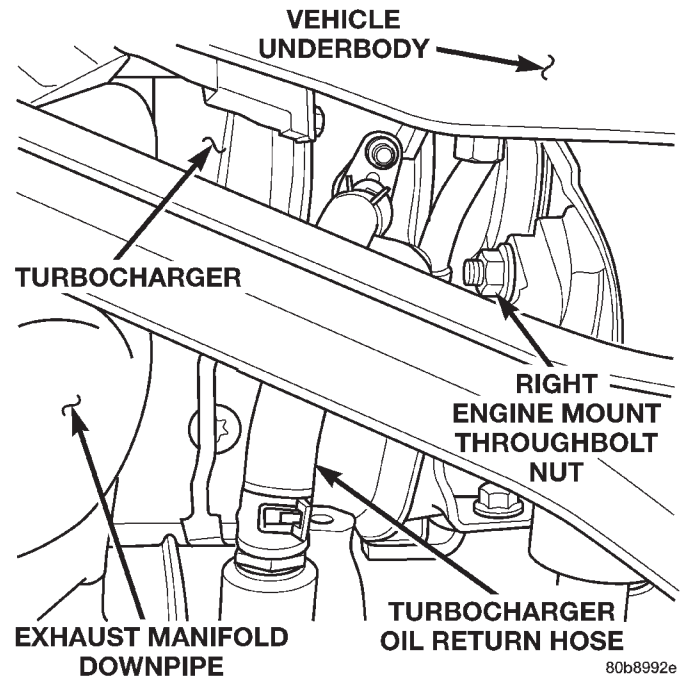

Fig. 3 Turbocharger Oil Return Line
- (1) Disconnect the negative battery cable.
- (2) Make sure steering wheel is in the unlocked position.
- (3) Raise the vehicle on a hoist.
- (4) Rotate the front wheels to access and remove the steering shaft pinch bolt, slide shaft straight off gearbox input shaft and position steering shaft aside.
- (5) Remove the turbocharger oil return line from engine block and plug (Fig. 3).
- (6) Remove the right engine mount through bolt nut only (Fig. 3). Do not remove the bolt at this time.
- (7) Remove the engine mount upper sill plate nuts.
- (8) Position a jack stand and raise weight off right engine mount.
- (9) Remove the track bar support bracket retaining bolts and remove bracket.
- (10) Remove the remaining lower engine mount bolt from the sill plate.
- (11) Remove the (4) engine mount bracket bolts.
- (12) Remove the engine mount throughbolt.
- (13) Remove the engine mount and engine mount bracket from the vehicle.
- (14) Remove the starter motor support bracket.